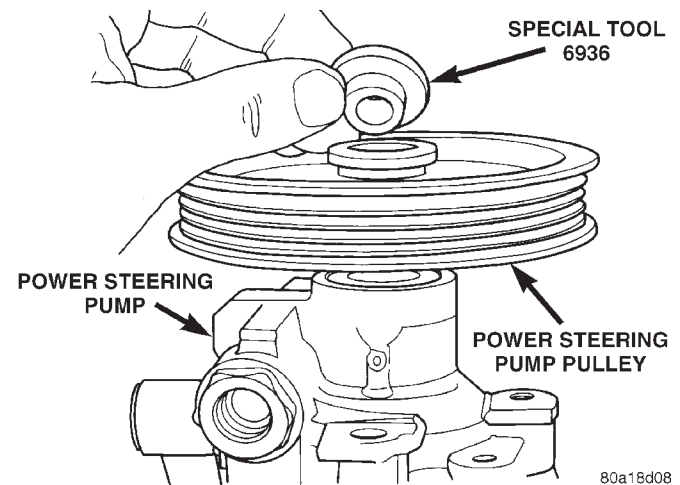

Fig. 29 Special Tool 6936 Correctly Installed On Power Steering Pump Pulley
(3) Place Installation Spacer, Special Tool 6936, (Fig. 29) on top of the power steering pump pulley.